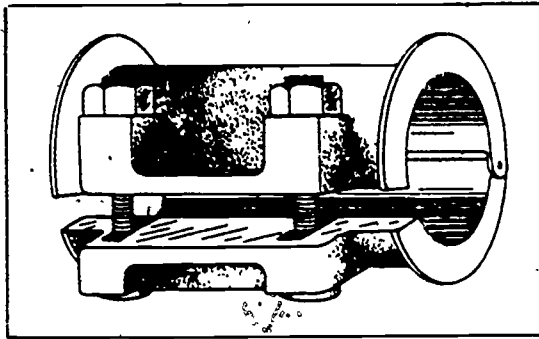

Figure 6-6. Emergency pipe clamp.
h. Pipe clamps. Emergency pipe clamps fastened around the pipe, shown in figure 6-6, is another way to repair pipe temporarily. The emergency clamp is a malleable iron cylinder halved, hinged along one side, and fitted with bolts on the other. A rubber gasket completes the clamp. To repair a pipe with an emergency clamp, select the right size clamp, place the gasket over the hole, and place the clamp around the pipe and over the gasket. Insert the bolts and turn the nuts down fingertight. Now, use a wrench to tighten the bolts completely. This clamp can be used either aboveground or underground. The emergency pipe clamp makes a dependable repair, but it is not used for a permanent repair in the Air Force.